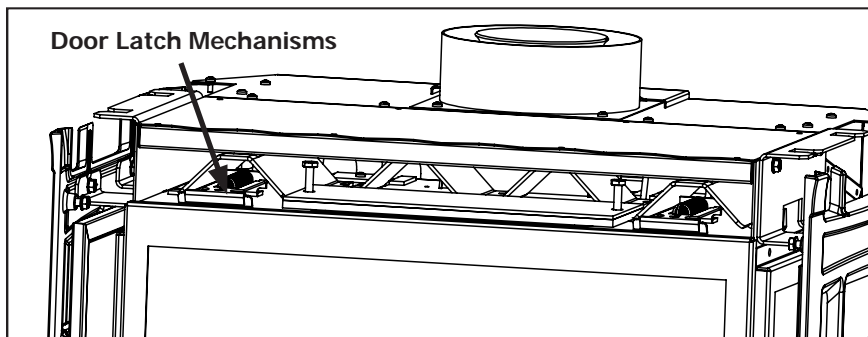
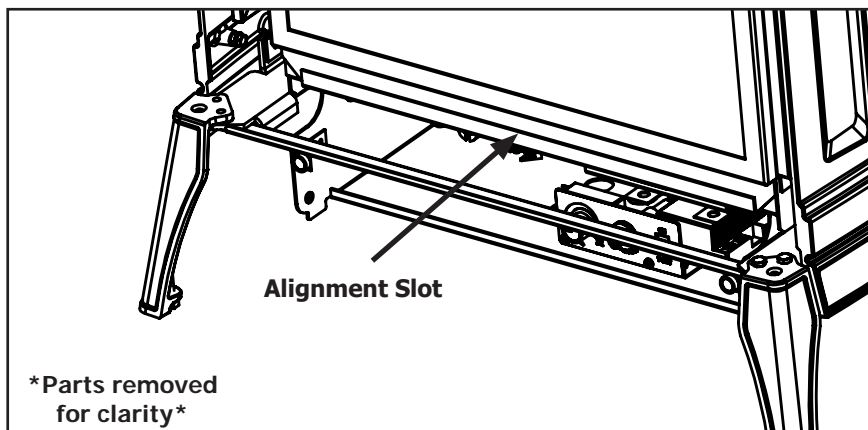

Figure 11. Top latches for glass door (cast top and door removed)
Figure 12. Bottom Alignment Slot for glass door.
In order to install the log set, and for regular cleaning, the glass door must be removed. The cast front must first be removed, as outlined in the section above, before accessing the door latches. There are two (2) door latch mechanisms on top the glass door as shown in Figure 11. Each latch can be pulled straight out and up by hand. When the top latches are unhooked, the door can be lifted up out of the alignment slot at the bottom of the firebox, shown in Figure 12.